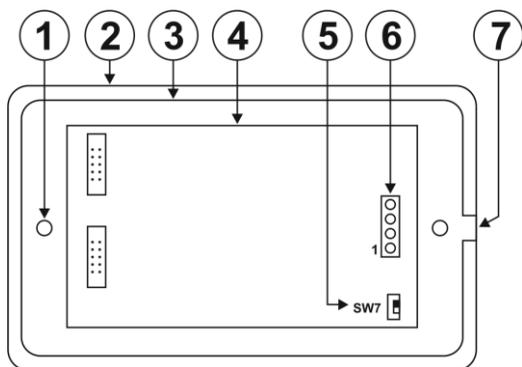
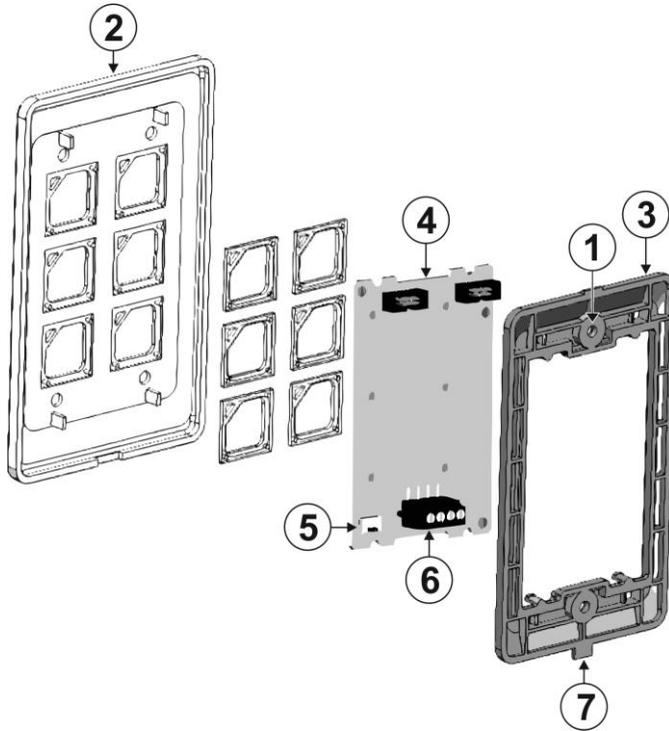

Figure 2: RC-43T Remote Controller Rear View
Figure 3: RC-43T Remote Controller Exploded Rear View
| Figure 2: | RC-43T Remote Controller Rear View | 6 |
| Figure 3: | RC-43T Remote Controller Exploded Rear View | 7 |
Figure 3 shows an exploded rear view using the same identification table as Figure 2.
1. Remove the front panel (see Figure 2 and Figure 3) by carefully prying it away from the PC Board frame using a small screwdriver being careful not to damage it.